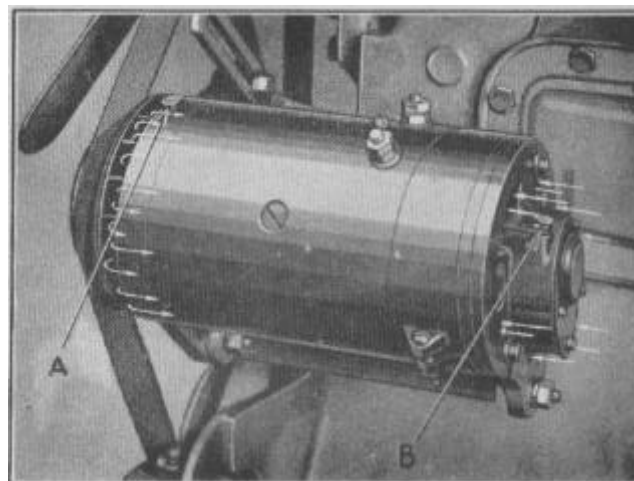

FIGURE 4
4. To determine whether generator is charging, connect an ammeter in series with the voltage regulator as shown in Figure 4, after disconnecting the "BAT" lead at the "B" terminal on regulator and grounding the "F" terminal on regulator with a jumper wire or screwdriver. If generator does not show charge on ammeter when engine is running at 1000 rpm, remove the "A" lead from regulator and flash it on ground. If no spark occurs, the generator is faulty or the "A" lead is broken. This latter test may be used to detect a non-charging generator when an ammeter is not available.